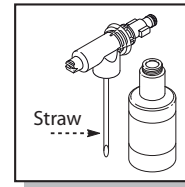

fig. 7
- The detergent comes with a straw fitted into the screw-on top. (fig. 7)